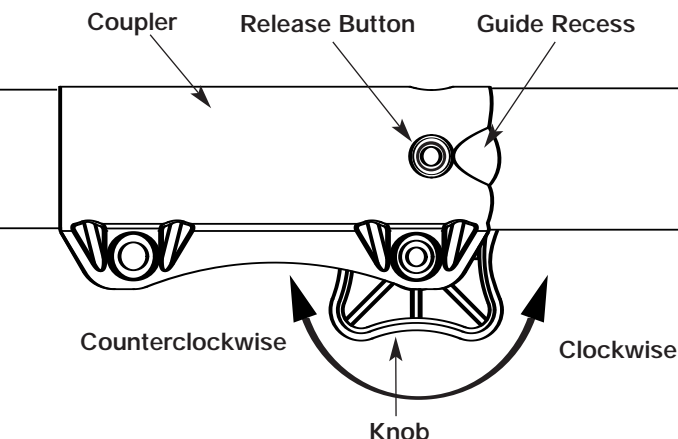

Fig. 1
**NOTE:** Aligning the release button with the guide recess will help installation (Fig. 1).
- Turn the knob counterclockwise to loosen (Fig. 1).
- Press and hold the release button (Fig. 1).
- Turn knob counterclockwise to loosen (Fig. 1).